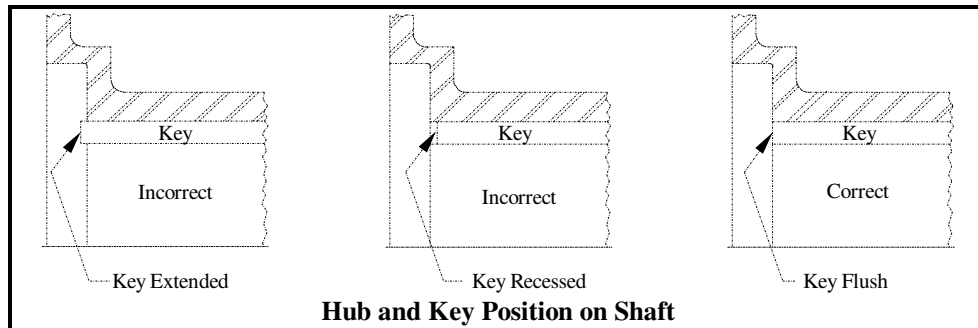

Figure 4-2
4.2.1.6 Position the hub and key as shown on the Ameridrives Sales Drawing, typically flush with the shaft end (see Figure 4-2).